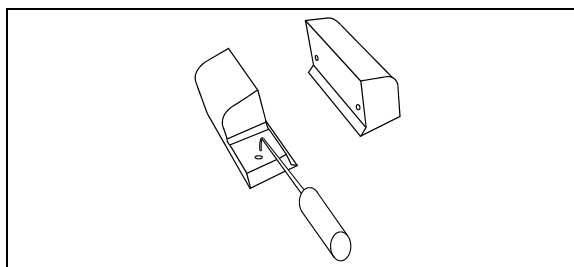

FIGURE 26: REMOVE THE UPPER ACETAL PLASTIC BLOCKS WITH A PICKING TOOL
with a picking tool (FIGURE 26) from outside the vehicle. If the acetal plastic blocks are too hard to reach, slightly extend the slide-out, the movement of the slide-out should bring them out.
1. For both sides of the slide-out, remove the 2 upper acetal plastic blocks shown on FIGURE 26 (refer to section 13).